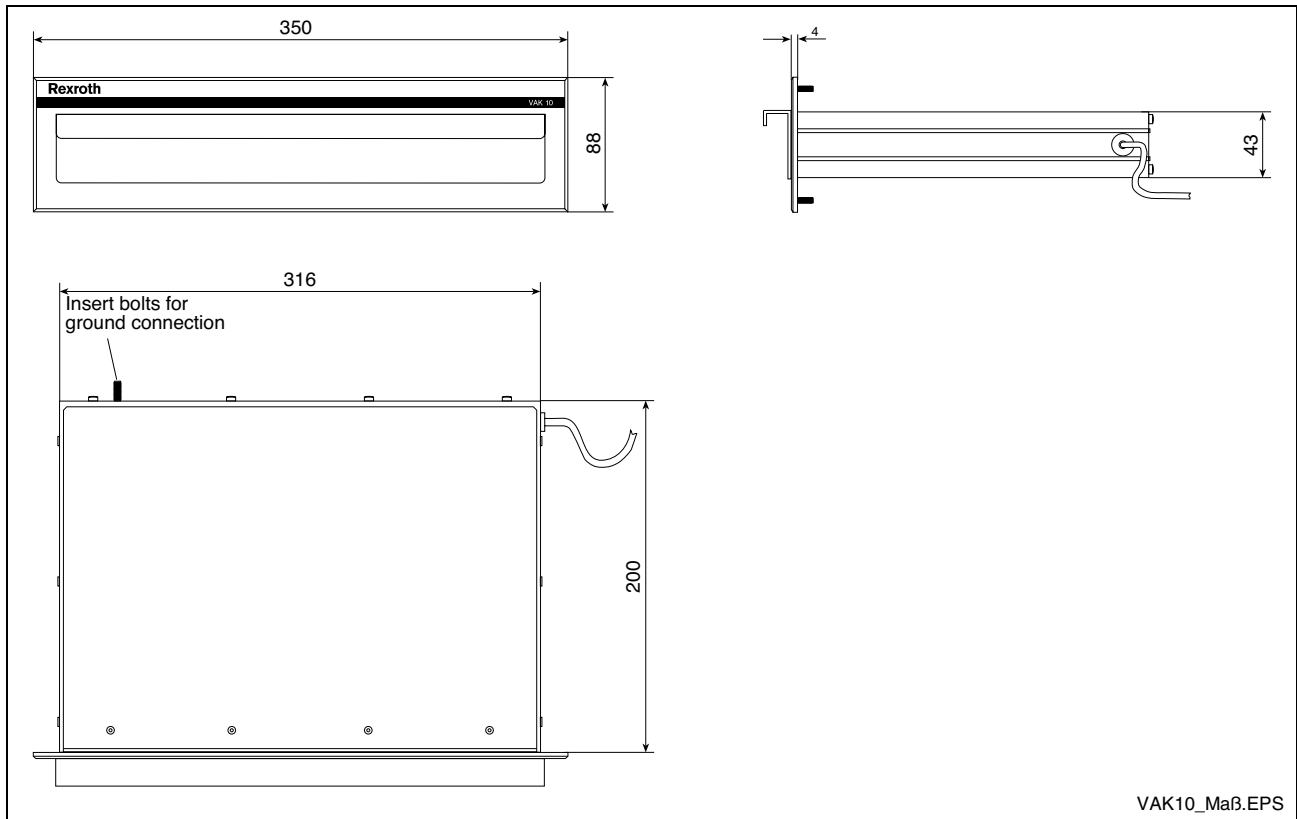

Fig. 7-1: Housing dimensions VAK 10.1
- Fig. 7-1: Housing dimensions VAK 10.1 7-1